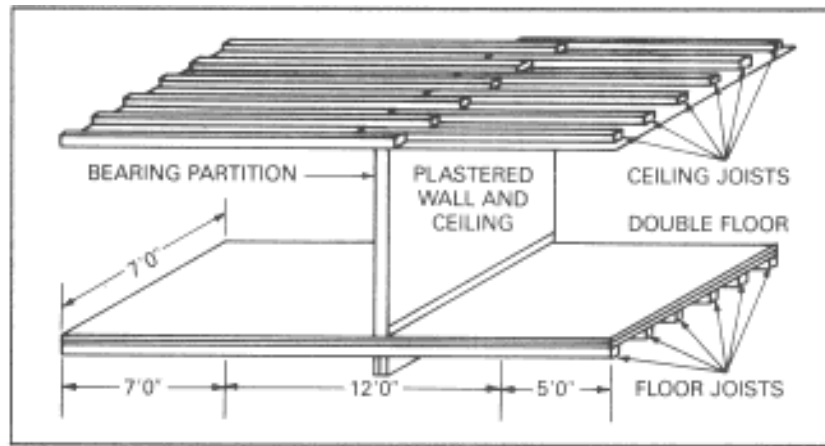

Figure 6-12. Girder load area
*Example.* Assume that the girder load area of the building shown in Figure 6-12 is sliced into 1-foot lengths across the girder. Each slice represents the weight supported by 1 foot of the girder. If the slice is divided into 1-foot units, each unit will represent 1 square foot of the total floor area. To determine the load per linear foot of girder, multiply the number of units by the total load per square foot.
Note in Figure 6-12 that the girder is off-center. Remember that half of the load is supported by the girder and half by the foundation walls. Therefore, the joist length to be supported on one side of the girder is **7 feet** (one half of 14 feet) and the other side is **5 feet** (one half of 10 feet), for a total distance of **12 feet** across the load area. Since each slice is 1 foot wide, it has a total floor area of 12 square feet.